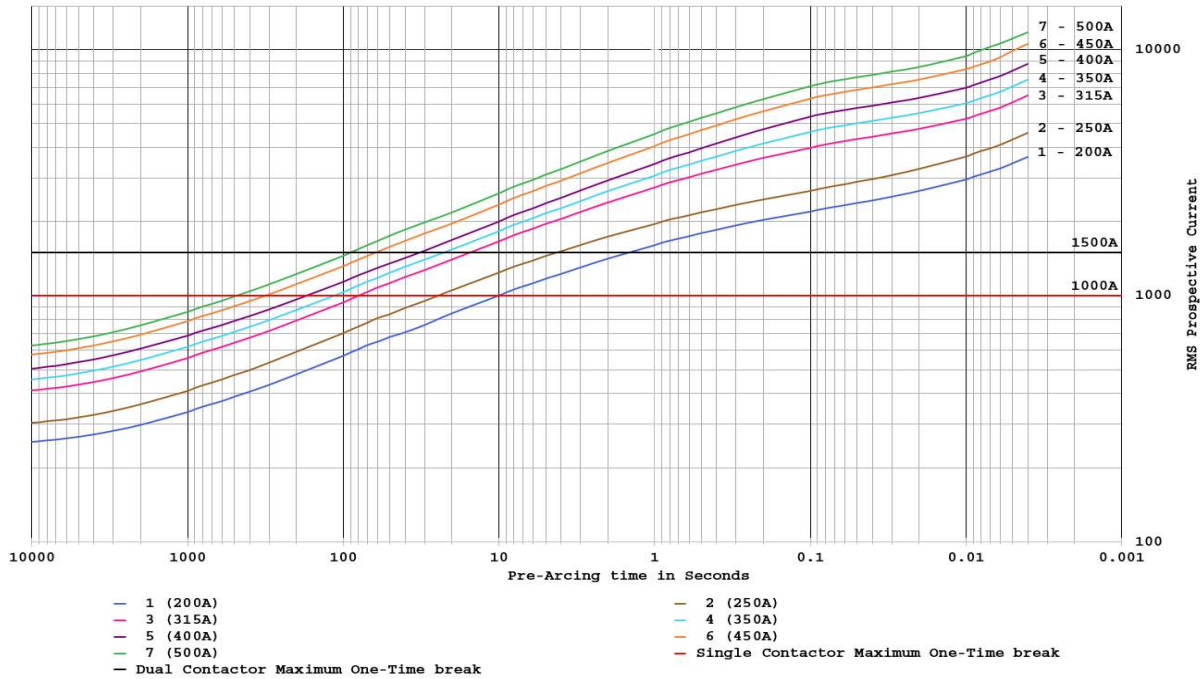

Figure 58. Fuse Response to Short Circuit Faults – Current Cut-Off Diagram
- I_{tcc} is the pre-arching prospective current at the duration equivalent to the length of the maximum continuous current (from Figure 58, "Fuse Response to Short Circuit Faults – Current Cut-Off Diagram").